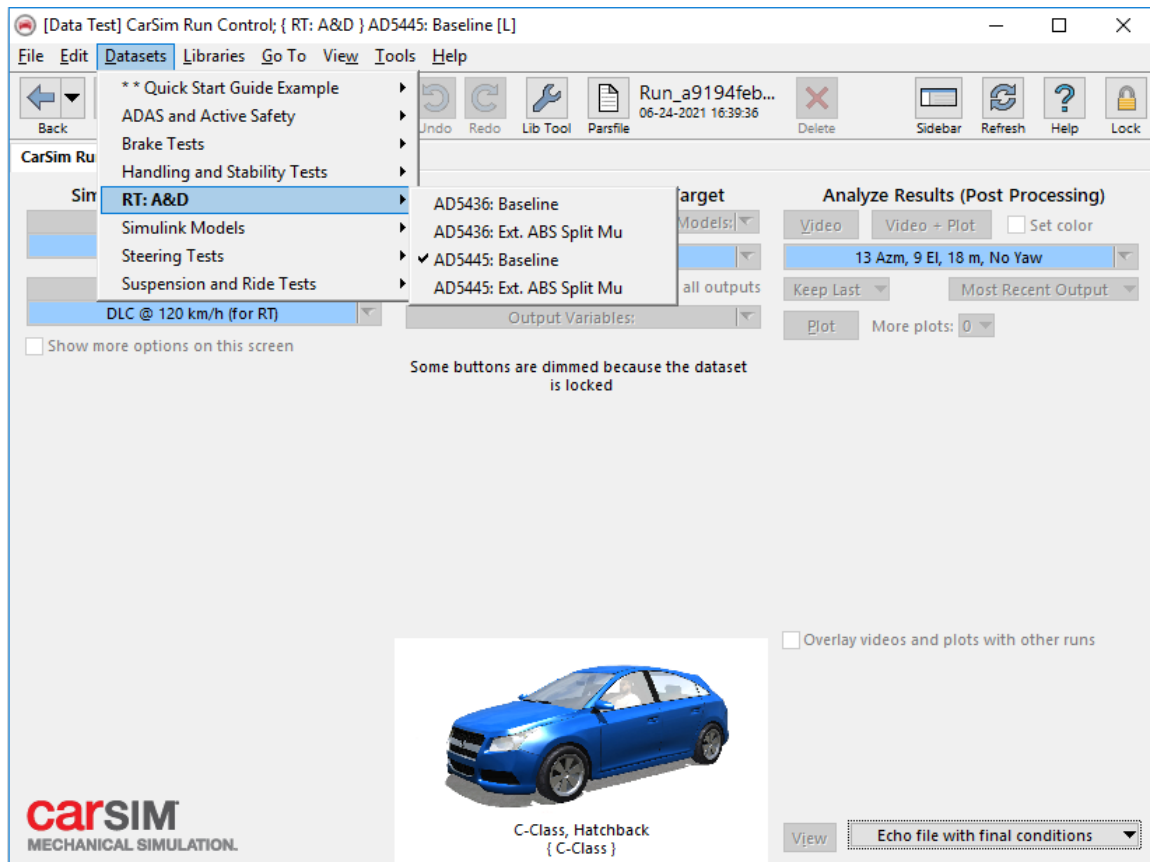

Figure 4. A&D Examples.
5. After the parsfile is imported, the A&D examples can be found in **Datasets > RT: A&D** (Figure 4).
1. In CarSim, select **Datasets > RT: A&D > AD5445: Baseline** to open the baseline example (Figure 4).